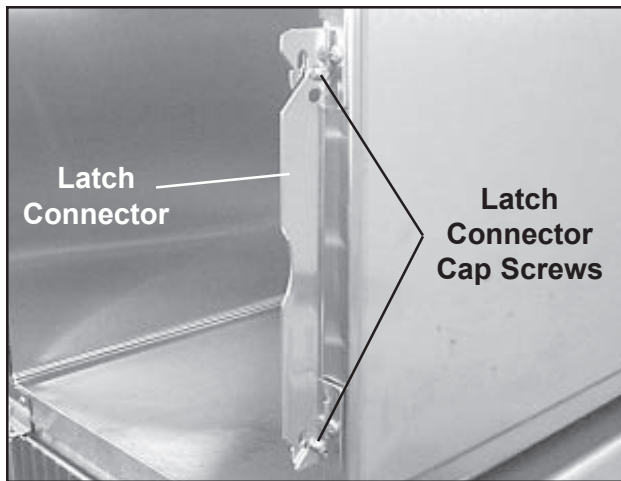

Figure 25. Removing the Latch Connector
4. With a Phillips screwdriver and a 7/16 in. wrench, remove the cap screws that hold the latch connector to the L-brackets, and remove the latch connector from the cage (Figure 25).